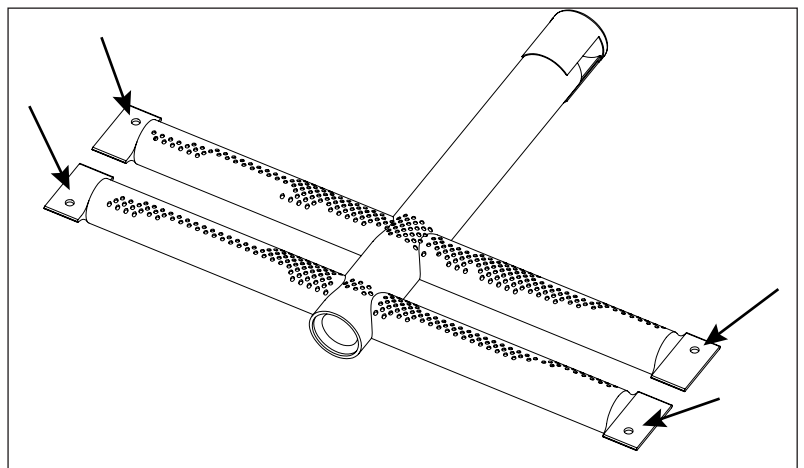

Figure 8: Log Burner Mounting Screws
5. Remove the four (4) T-20 screws securing the burner to the firebox (see Figure 8). The burner can now be fully removed.